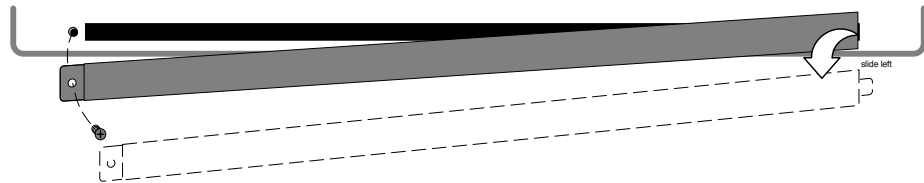

Figure B-4 — Removing the audio cover
2. If your Matrix 50 does not already have audio, there is a cover over the slot. Remove the screw on the left side of the cover (figure B-4), pull the audio cover away from the left, and then shift it to the left to free the tab from the slot on the right. Put the audio cover aside.